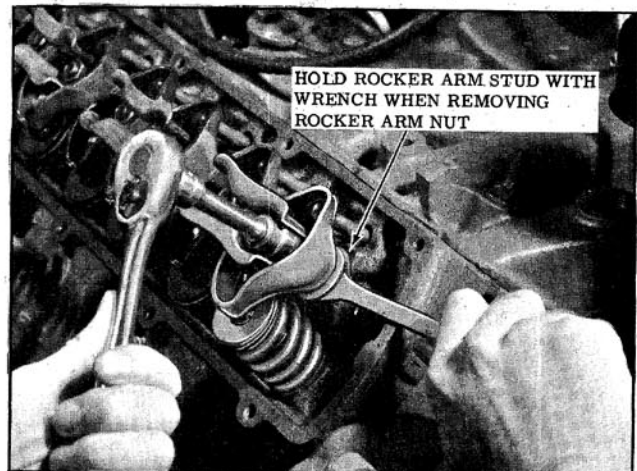

Fig. 3-55A Removing Rocker Arm
2. Hold the stud to prevent it from turning and remove rocker arm stud nuts, washer, lock plates, pivots and rocker arms. (Fig. 3-55A)